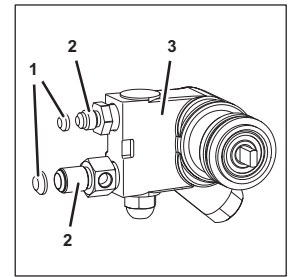

Fig. 48
6. Disconnect the fittings (Fig. 48/2) from the carbonator pump (Fig. 48/3).
7. Apply thread adhesive to the threads of the fittings (Fig. 48/2) and attach the fittings (Fig. 48/2) to the new carbonator pump (Fig. 48/3).
8. Replace the seals (Fig. 48/1) of the carbonator pump (Fig. 48/3).